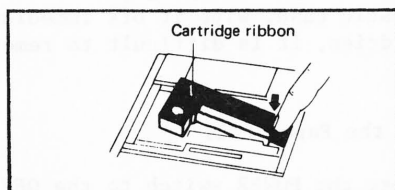

FIGURE 2. Removing Cartridge
- c. Push down on the right side of ribbon cartridge (marked "PUSH") and remove cartridge (see figure 2).